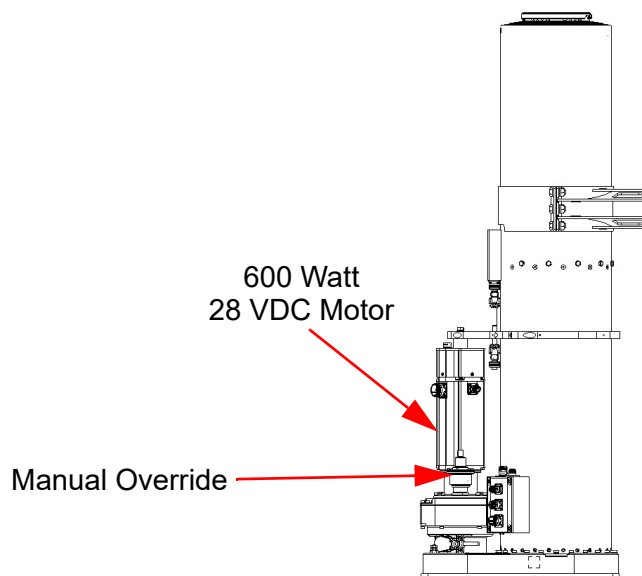

Figure 6-19 Manual Override
3. Locate the manual override on the motor (Figure 6-19).